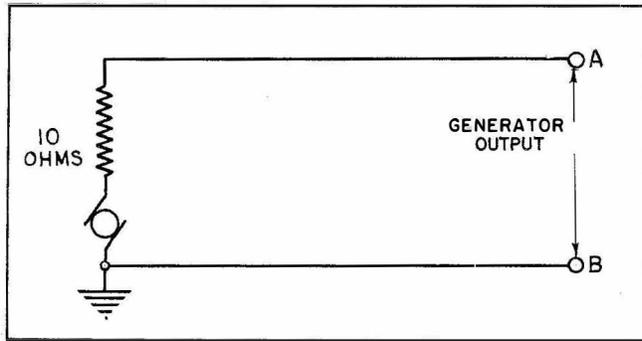
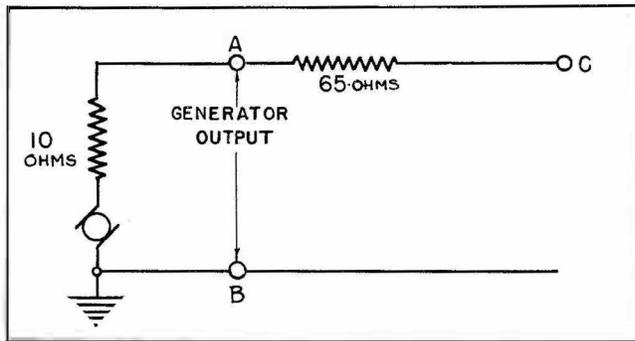

Figure 4-8—Schematic Diagram of Signal Generator Showing Output Impedance
Figure 4-9—Schematic Diagram Figure 4-8 with Insertion Unit to Match 75-ohm Cable Added
f. The output impedance of the Signal Generator on the X-1, X-10, X-100, and X-1000 attenuator steps is 10 ohms. (See Fig. 4-8.) In order to match this impedance to the 75-ohm Coaxial Cable it is necessary to insert a 65-ohm non-inductive resistor between the Output Jack and the Coaxial Cable. (See Fig. 4-9.) If standing waves are present on a cable (incorrectly matched at either or both ends) the voltage varies periodically along the cable and the exact voltage appearing at the end will depend on the length of the cable. There will also be a power loss in the cable. Therefore it is necessary to match impedance carefully, to obtain the correct output voltage from the Signal Generator.